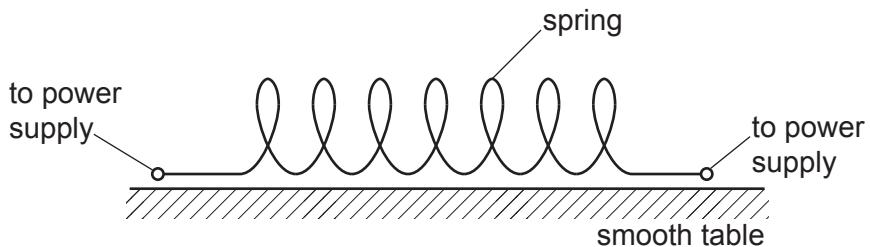

Fig. 6.5
- (b) A metal spring rests on a smooth table. The turns of the spring are equally spaced. The ends of the spring are connected to a d.c. power supply, as shown in Fig. 6.5.